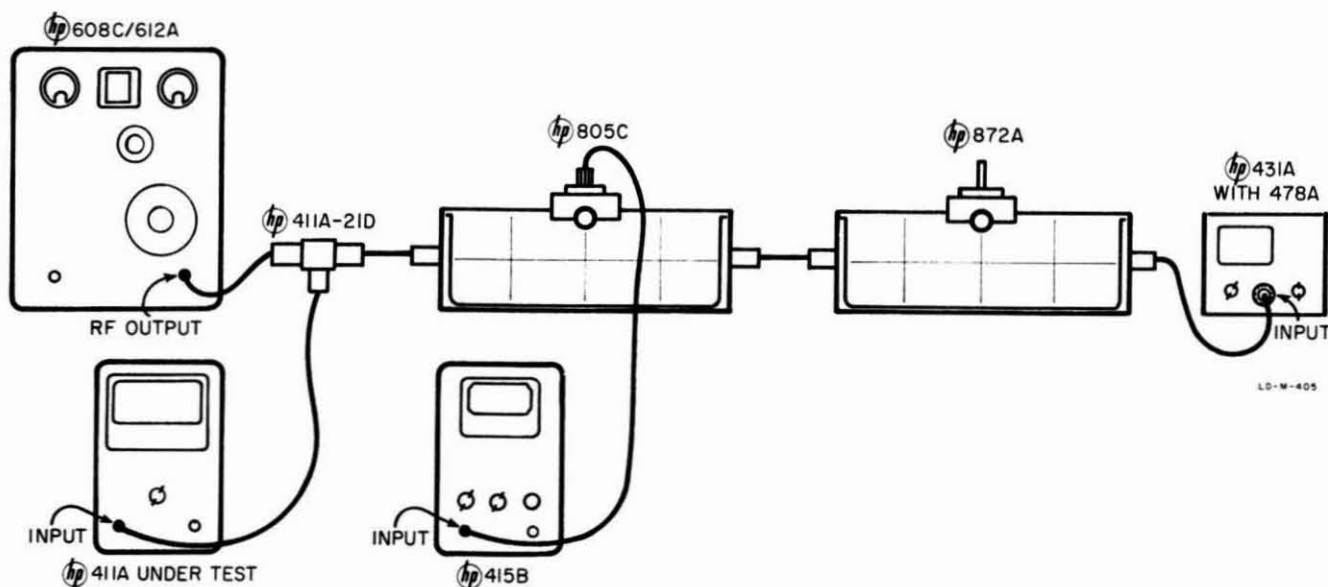

Figure 5-4. Test Setup for Final Test
a. Connect the instruments as shown in figure 5-4 with the signal generator turned to 500 mc (480 mc with Model 608C).